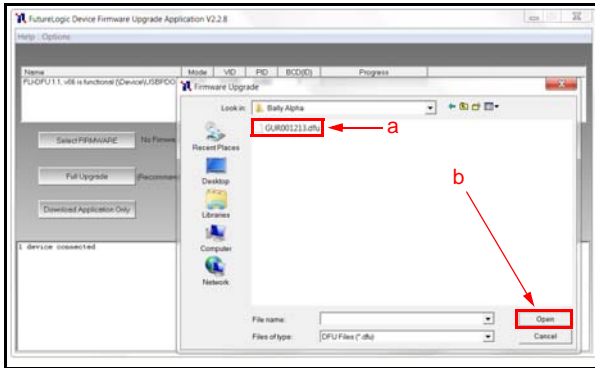

Figure 7 Select the Firmware File to Download
- From the Firmware Upgrade window (Figure 7), click on the desired Firmware update file (Figure 7 a) to be downloaded to the Printer. Click the Open button (Figure 7 b) to continue.